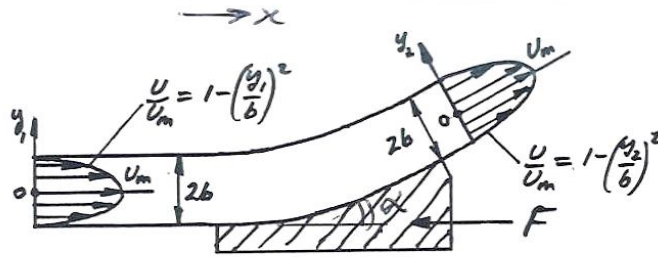

Figure P3.42
3.42 A steady jet of water of density ρ hits a deflector plate of constant width w inclined at an angle α , as shown in Figure P3.42. For the velocity distributions given in the figure, find the horizontal component of the force required to hold the deflector plate in place in terms of ρ , U_m , w , b , and α , assuming that viscous and gravity effects are negligible and the pressure is uniform everywhere.